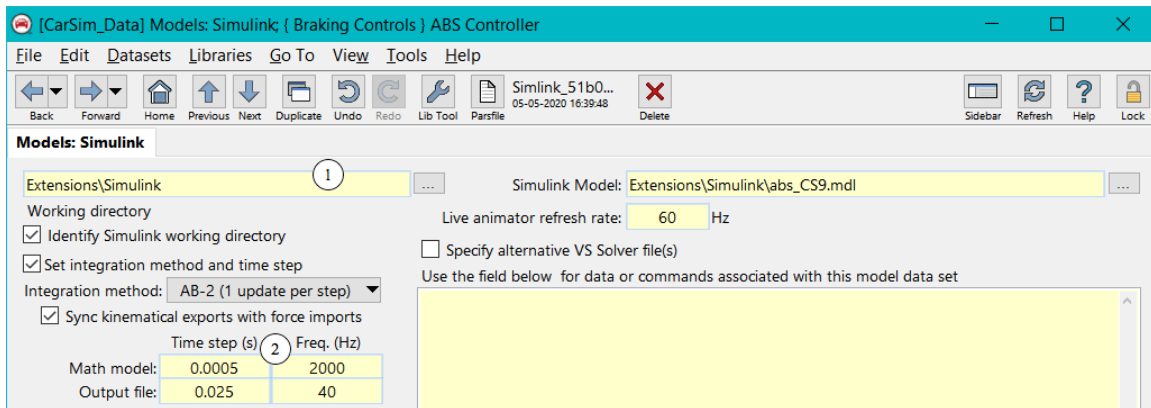
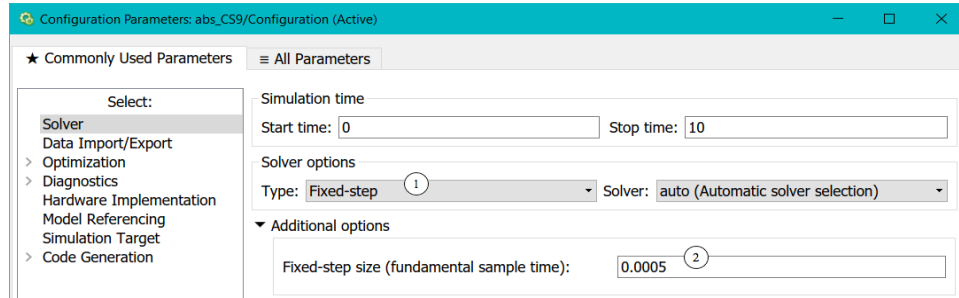

Figure 3. Setup Simulink Model Screen.
Figure 8. Setup time step.
1. Check **Identify Simulink working directory** and Simulink folder ① (Figure 3).
2. Setup the integration method and time step ②.
- i. Solver Type is “Fixed-Step” ① (Figure 8).
- ii. Fixed-Step Size ② (Figure 8) to match Math model Time step ② (Figure 3).